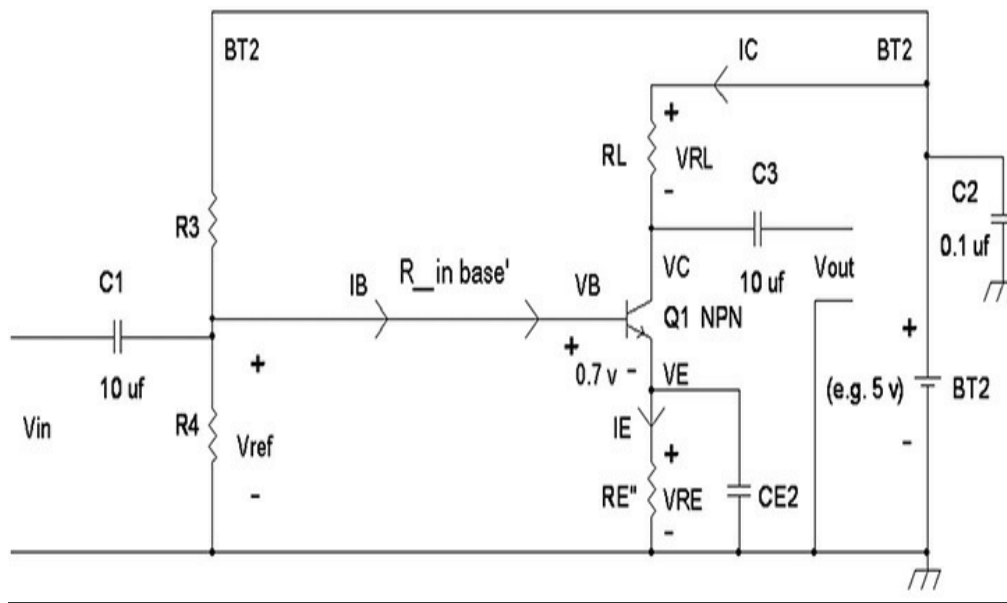

FIGURE 8.30 Capacitor CE_2 effectively AC grounds Q_1 's emitter.
An emitter bypass capacitor CE_2 provides higher gain (V_{out}/V_{in}) at the expense of higher distortion. But this circuit allows for lower supply voltages. See Figure 8-30.
7. In Figures 8-30 and 8-31 emitter capacitors CE
9. The common emitter amplifier in Figure 8-30 where capacitor CE is an AC short circuit from emitter to ground has the same input amplitude limitation as the simple bias circuit in Figure 8-11 for tolerable distortion at the output, V_{out} . By tolerable distortion, an example would be for intelligible voice signals, < 10 percent harmonic distortion is workable. That is, generally the input signal, V_{in} , is limited to less than 10 mV or 20 mV peak to peak when driven by a low impedance source signal such as a 50Ω generator. If V_{in} is driven with a larger value source resistance such as a $\geq 10\text{K}\Omega$ series resistor, the distortion will be lower but the voltage gain will be lower as well due to the input resistance forming a voltage divider circuit.
The DC collector voltage will determine output voltage swing. For the circuit in Figure 8-30, where capacitor CE is an AC short circuit, the maximum voltage swing will be from V_E to BT_2 . For example, if V_B is 2 volts, then $V_E = 1.3$ volts due to the 0.7-volt base – emitter voltage. If $BT_2 = 6$ volts, then the peak to peak output swing will be from +1.3 volts to +6 volts, which will be (6 volts – 1.3 volts) peak to peak or 4.7 volts peak to peak. However, often the DC collector voltage is not centered to give maximum voltage swing without clipping prematurely on one-half of a sine wave cycle before the other half of the sine-wave. To maximize, you can set the DC collector voltage